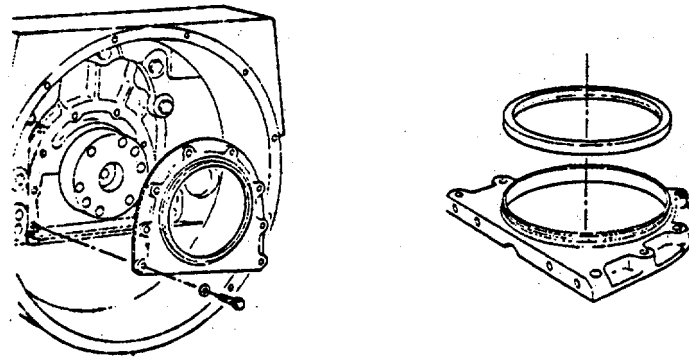
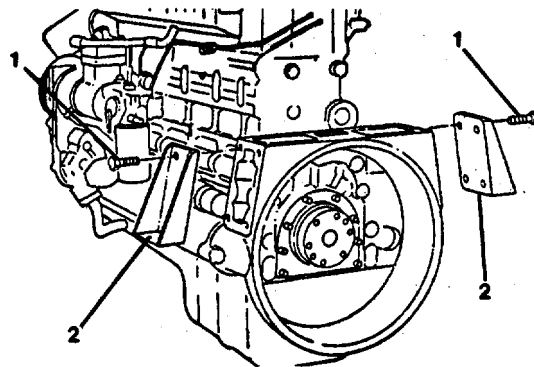

FIGURE 3-65. Crankshaft Flange Cover.
FIGURE 3-66. Removing Mounts.
- (5) Remove the capscrews from the rear cover, and remove the cover from the crankshaft flange (Figure 3-65).
- (6) Remove the crankshaft seal from the rear cover (Figure 3-65).
- (7) Use the lifting fixture to support the rear of the engine.
- (8) Remove the capscrews (1, Figure 3-66) and both rear engine mounts (2).